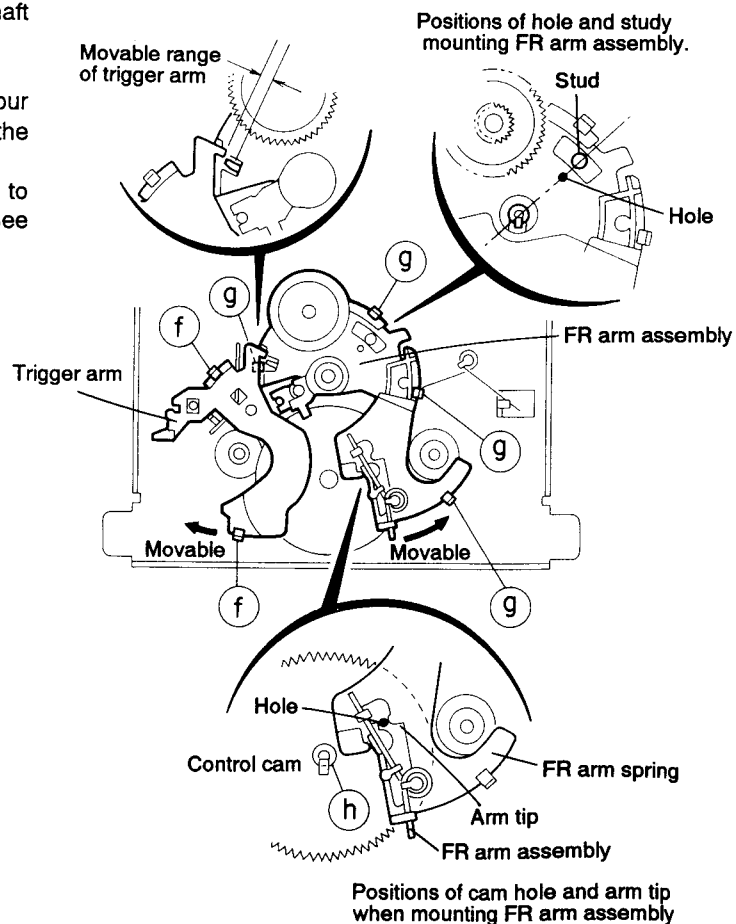

Fig. 5-46
3. While opening the two pawls ① fixing the trigger arm in the arrow direction, remove the arm from the clamp shaft (See Fig. 5-46).
5. Remove the FR arm spring, and while opening the four pawls ② fixing the FR arm toward outside, pull out the FR arm assembly (See Fig. 5-46).
6. While aligning the engagement ③ of the control cam to the center of bearing hole, pull out the control cam (See Fig. 5-46).
(See Figs. 5-46~5-51)
Caution 1: The positions of the hole and stud in Fig. 5-46 should be aligned so carefully for mounting the FR arm assembly (See Fig. 5-46).